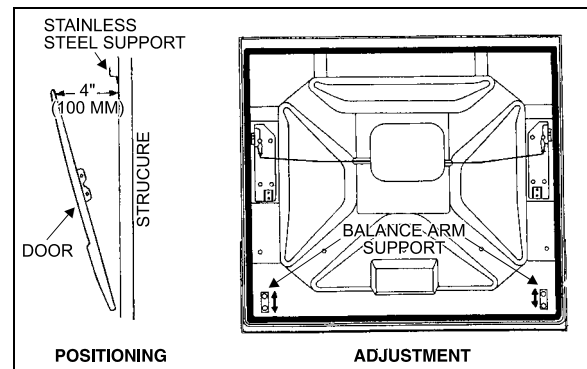

FIGURE 55: BAGGAGE COMPARTMENT DOOR 18065
- Slightly open the door, position it to obtain a gap of  $4$ " (100mm) between structure and door panel upper lip, maintain door in this position while an assistant completes tightening the two bolts retaining door to each balance arm support (Fig. 55).